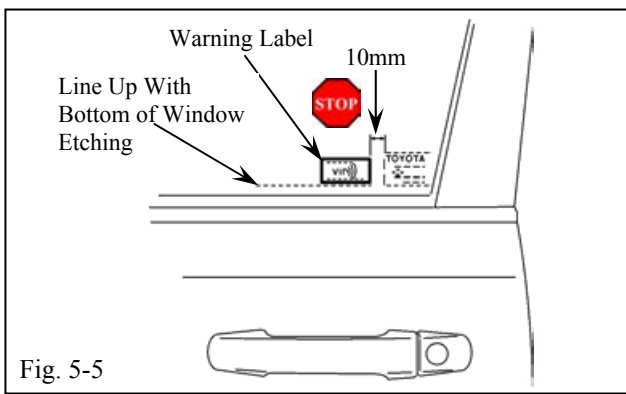

Fig. 5-5
- (h) Using Household Windex, clean the inside surface of the Front Door Windows. (Fig. 5-5)
- (1) When cleaning with Household Windex, follow the Manufacturer's Directions.
- (i) Place the window labels on the inside surface of the front door's windows as shown. (Fig. 5-5)
- (1) Use a piece of clean adhesive tape to lift the labels off their protective backing sheet.
- (2) Do not touch the Labels' Adhesive Surface.